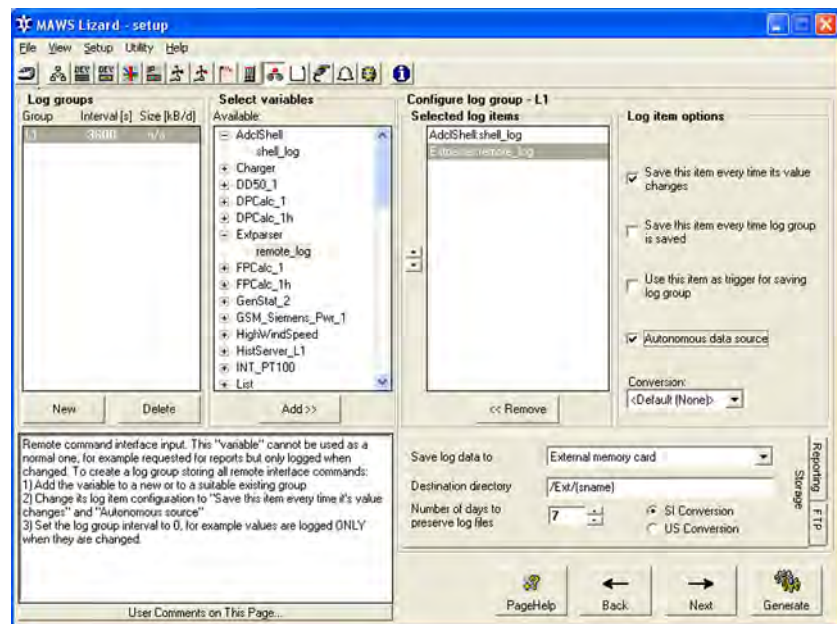

Figure 82 Logging View: Defining User Interaction Log
1. Create a new log group as shown in Figure 82 on page 167. Do not include other types of variables in this log group.